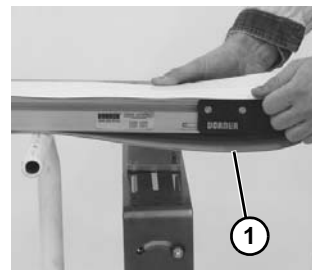

Figure 37
3. Install belt (**Figure 37, item 1**) on conveyor. Lift conveyor slightly to avoid pinching belt on temporary support stands.